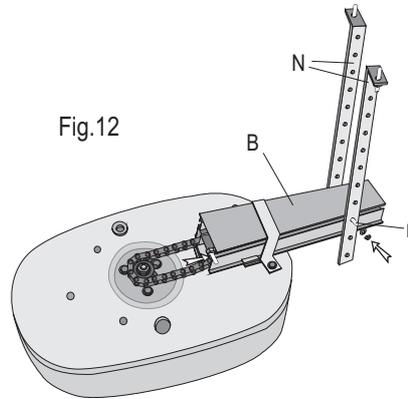

Fig.12
5 - Connect the mainframe (E) to the chain guide (B) by inserting it in the guide slots (F) and mount the chain on the pinion (G) . Insert the screws head (K) into the external rails of the guide. This is essential for the following fixing of the guide to the support stirrups (fig.12). Joint the guide to the mainframe with the collar (H) using the appropriate screws (fig.6) .
10 - Connect the guide (B) to the support stirrup (N) with the two appropriate screws (K) previously predisposed (fig.12) .